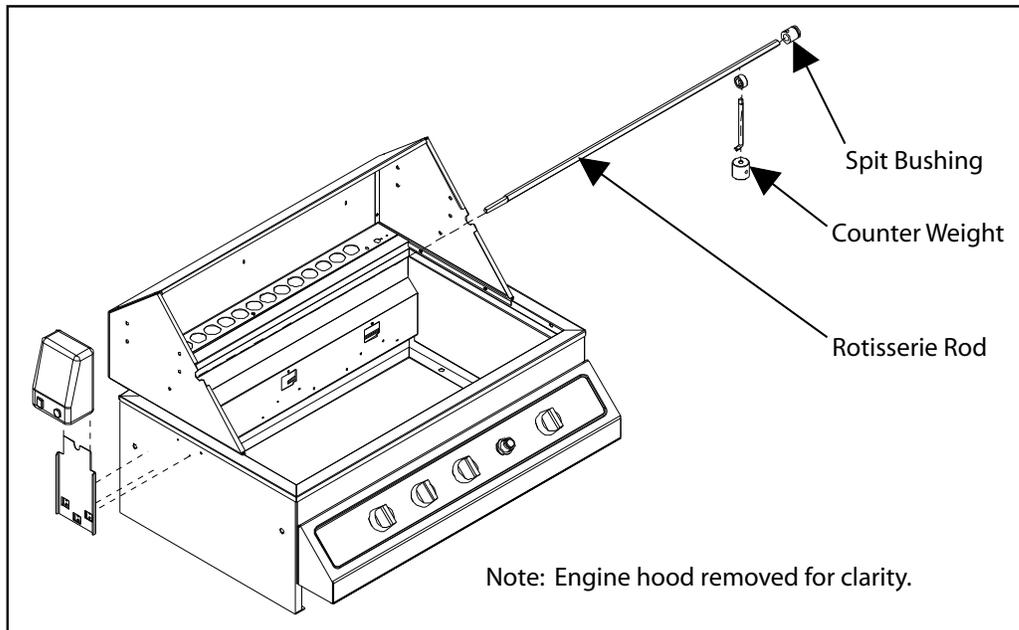

Figure 20
1. Install the motor mounting bracket onto the left side of the engine with the three (3) screws provided.
3. Place the forks, counterweight, and spit bushing onto the rotisserie rod (see Figure 20). If cooking a large item on the rotisserie, the forks are not mandatory.